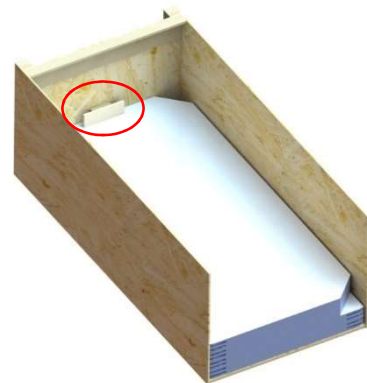

Figure 43
18) Unscrew the blocks that retain the panels. Remove the fiberglass panels from the crate and place them in a safe place (Figure 43).